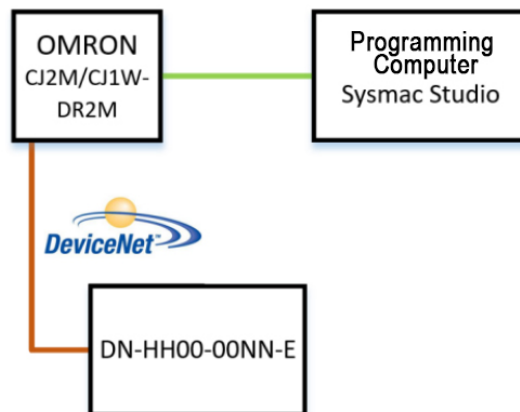

Fig. 5-5-1 Communication Link Diagram
1. See Fig. 5-5-1 for the communication link diagram.